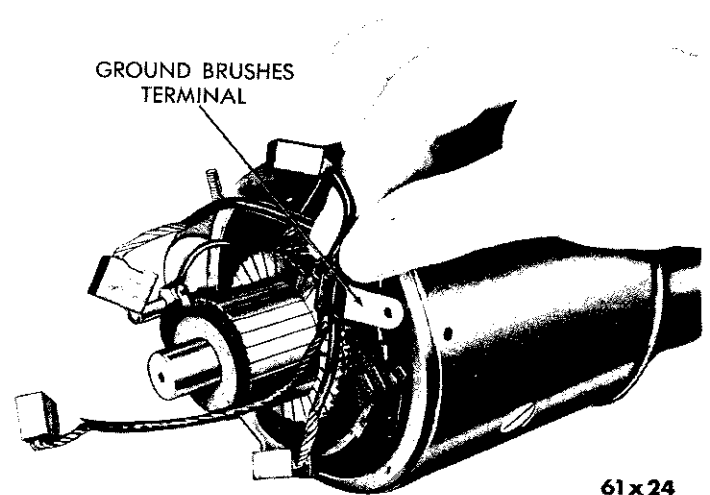

Fig. 7—Removing or Installing Ground Brushes Terminal
(12) If necessary to replace field coils, remove the ground brushes terminal attaching screw and raise the brushes with terminal and shunt wire up and away from field frame (Fig. 7). Remove the pole shoe screws with special pole shoe impact screwdriver, Tool C-3475.
(4) Remove the screw attaching the ground brush terminal to the field frame and raise the brushes and terminal up and away from the field frame (Fig. 7).
(4) Remove the ground brushes attaching screw and raise the brushes with terminal and shunt wire up and away from field frame (Fig. 7).
(8) Install the ground brushes (Fig. 7).